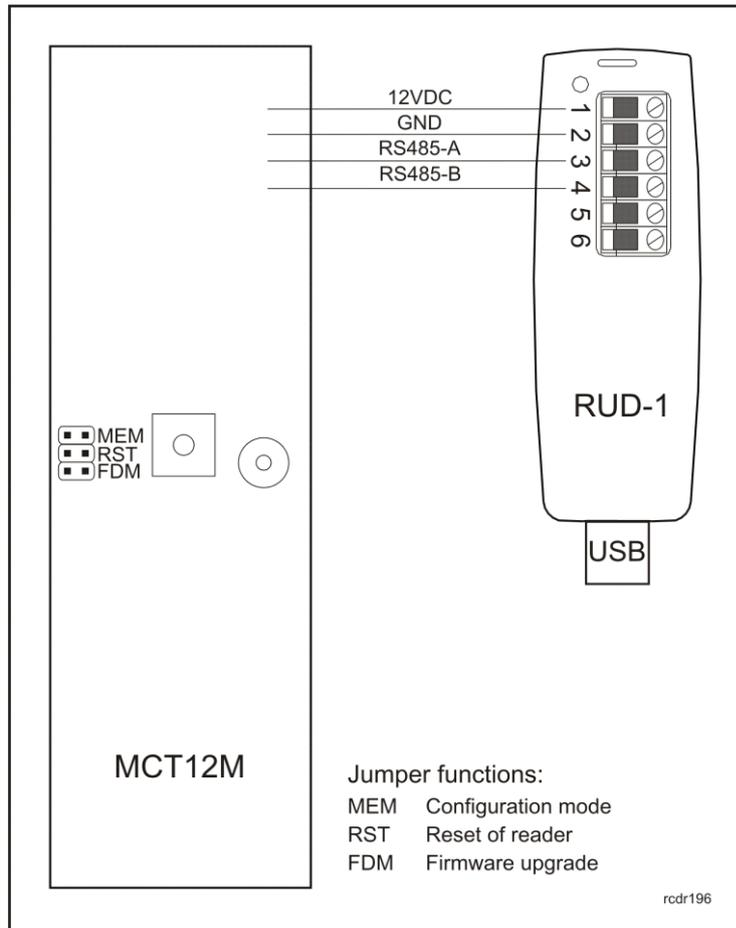

Fig. 1 Reader connection method to RUD-1 interface.
1. connect reader to RUD-1 interface according to Fig. 1;